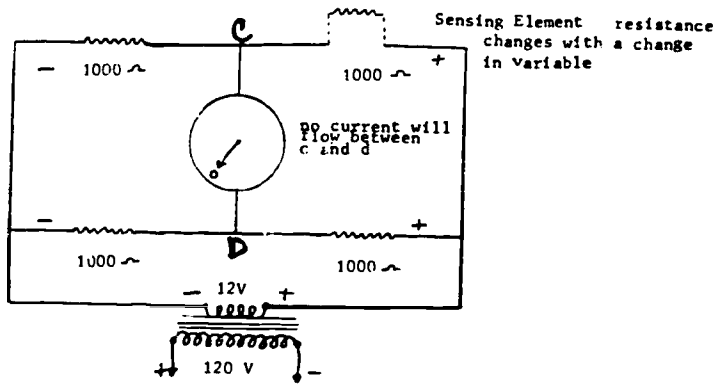

Figure 42
The brain of most electronic control loops is the bridge circuit. It is made up of one sensing element (T-1) that changes its resistance with a change in variable. It will also consist of three resistors (R1, R2, R4) of fixed resistance. See Figure 42.
3. Is current flowing between points C and D in Figure 42? Explain.